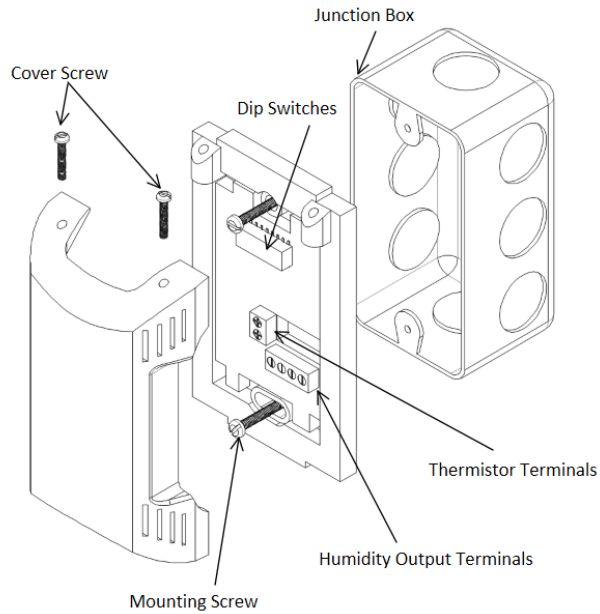
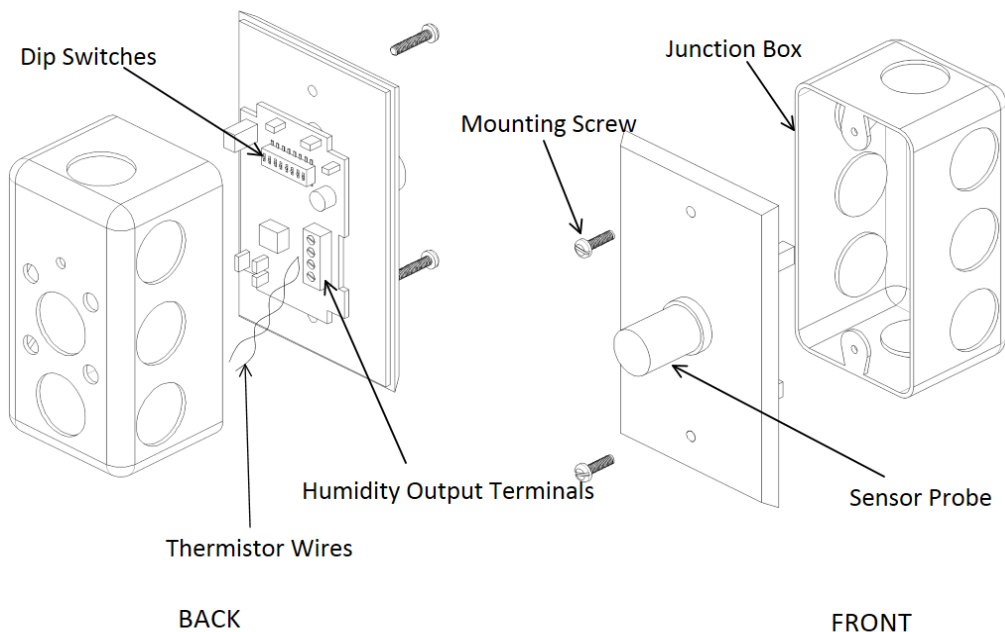
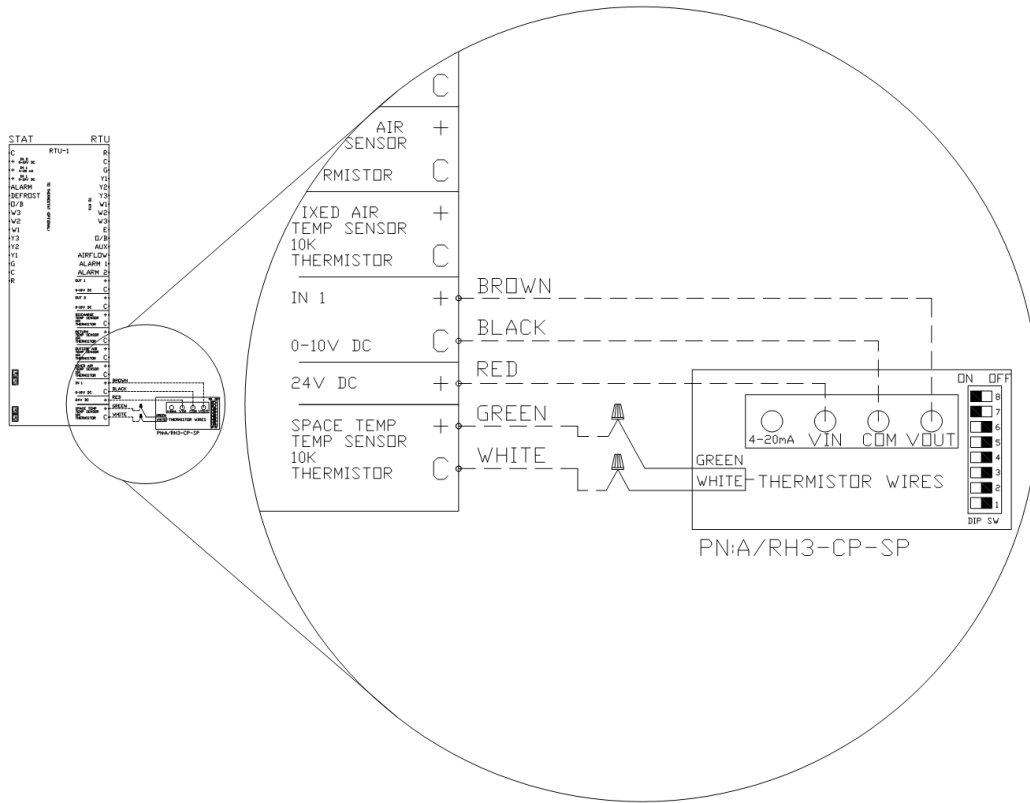

Figure 12. Temperature and Humidity Sensor Detail (Plastic Wall Mount)
Figure 13. Temperature and Humidity Sensor Detail (Stainless Steel Wall Mount Housing)
Figure 14. Space Mounted Temp/Humidity Sensor Wiring
Figure 12 shows an install detail for a wall-mounted temperature and humidity sensor with a plastic housing (PN: A/RH3-CP-R2). **Figure 13** shows an install detail for a wall-mounted temperature and humidity sensor with stainless steel housing (PN: A/RH3-CP-SP). **Figure 14** shows a wiring schematic of a space temperature and humidity sensor that is installed in the space and connected to the “RTU” Input 1 on the RTULink. Standard 18-5 thermostat wire should be used for sensor wiring.
The sensor has a bank of eight dip switches that control the range of the output voltage of the humidity sensor. Switches seven (7) and eight (8) need to be turned ON, and the rest should remain OFF. These dip switches can be seen in the sensor detail in **Figure 14**.
Once the sensor is wired to an input, enter the configuration menu of the RTULink via the onboard HMI and configure the corresponding input for the humidity sensor that was installed. In the **Figure 14** example, "RTU IN 1" would be configured for "SPACE RH".